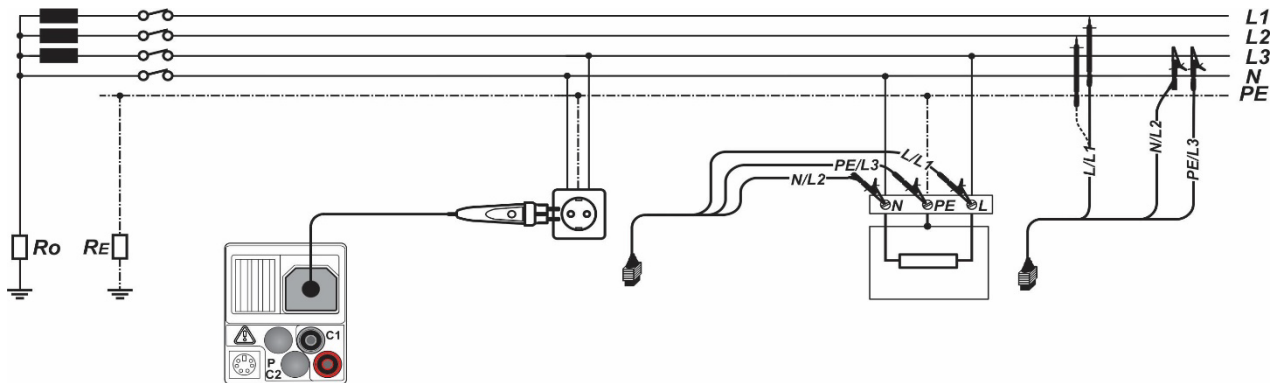

Figure 5.28: Connection of the optional "Commander" test plug (044149) and the three-wire test cable - Figure using the IT 130 as an example
- Connect the test cables to the test object (see figure 5.28).